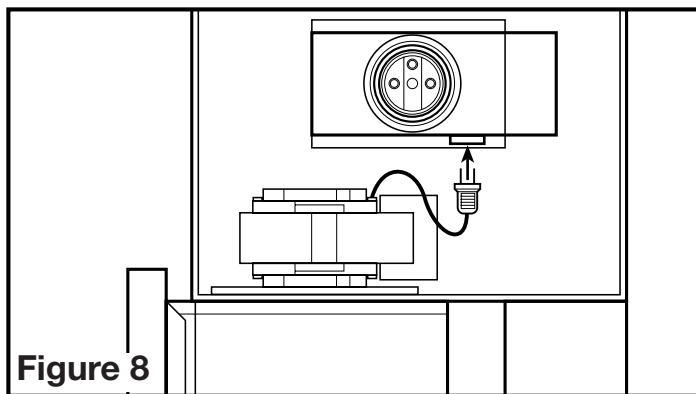

**Figure 7**
- 2a. From where you have access to inside the fan's junction box, connect the one white wire from the house to the white wire from the fan. Connect the black wire from the house to both the black and blue wires from the fan. Connect the ground wire from the house to the green wire from the fan (**Figure 7**). Use approved methods for all connections.